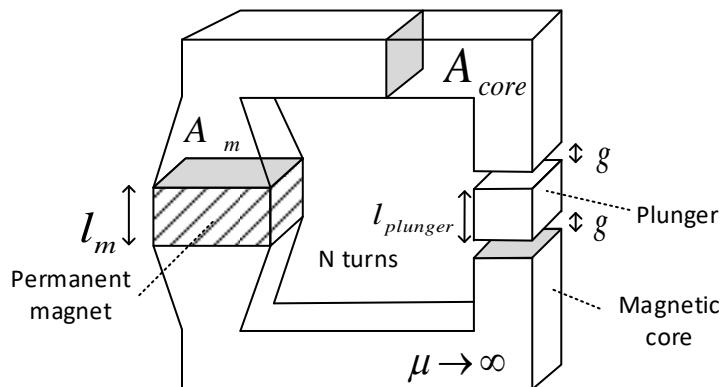

Fig. 2. C-shaped magnetic core with permanent magnet.
- b. Coil is replaced with a NdFeB high energy density permanent magnet from which the characteristics are shown in Fig. 2. System operates at 180 °C. Calculate the permanent magnet length l_m to get an air-gap flux density of 0.7 T by keeping $A_m = A_g$. Does the permanent magnet operate at its optimum operating point? (5 points)
- c. Due to the high cost of the permanent magnet, you are asked to minimize the PM volume. You can make changes in your core so that $A_m \neq A_g$ as in Fig. 2. Calculate the A_m and l_m of the magnet so that a minimum amount of PM material is used to get 0.7 T in the air-gap at 180 °C. What is the percentage volumetric reduction in magnet volume compared to part b. (5 points)